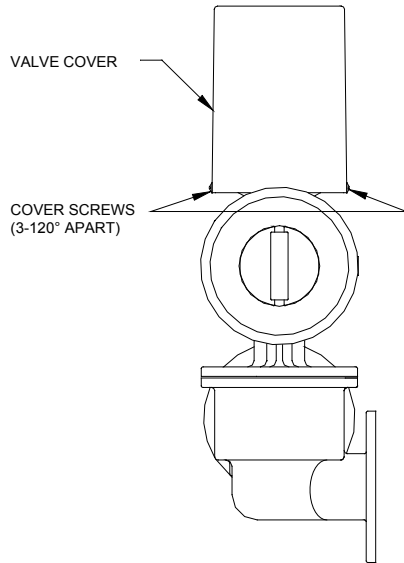

Figure 6.7
8. Remove the air/fuel valve cover by loosening the 3 screws securing it in place. (See Fig. 6.7).